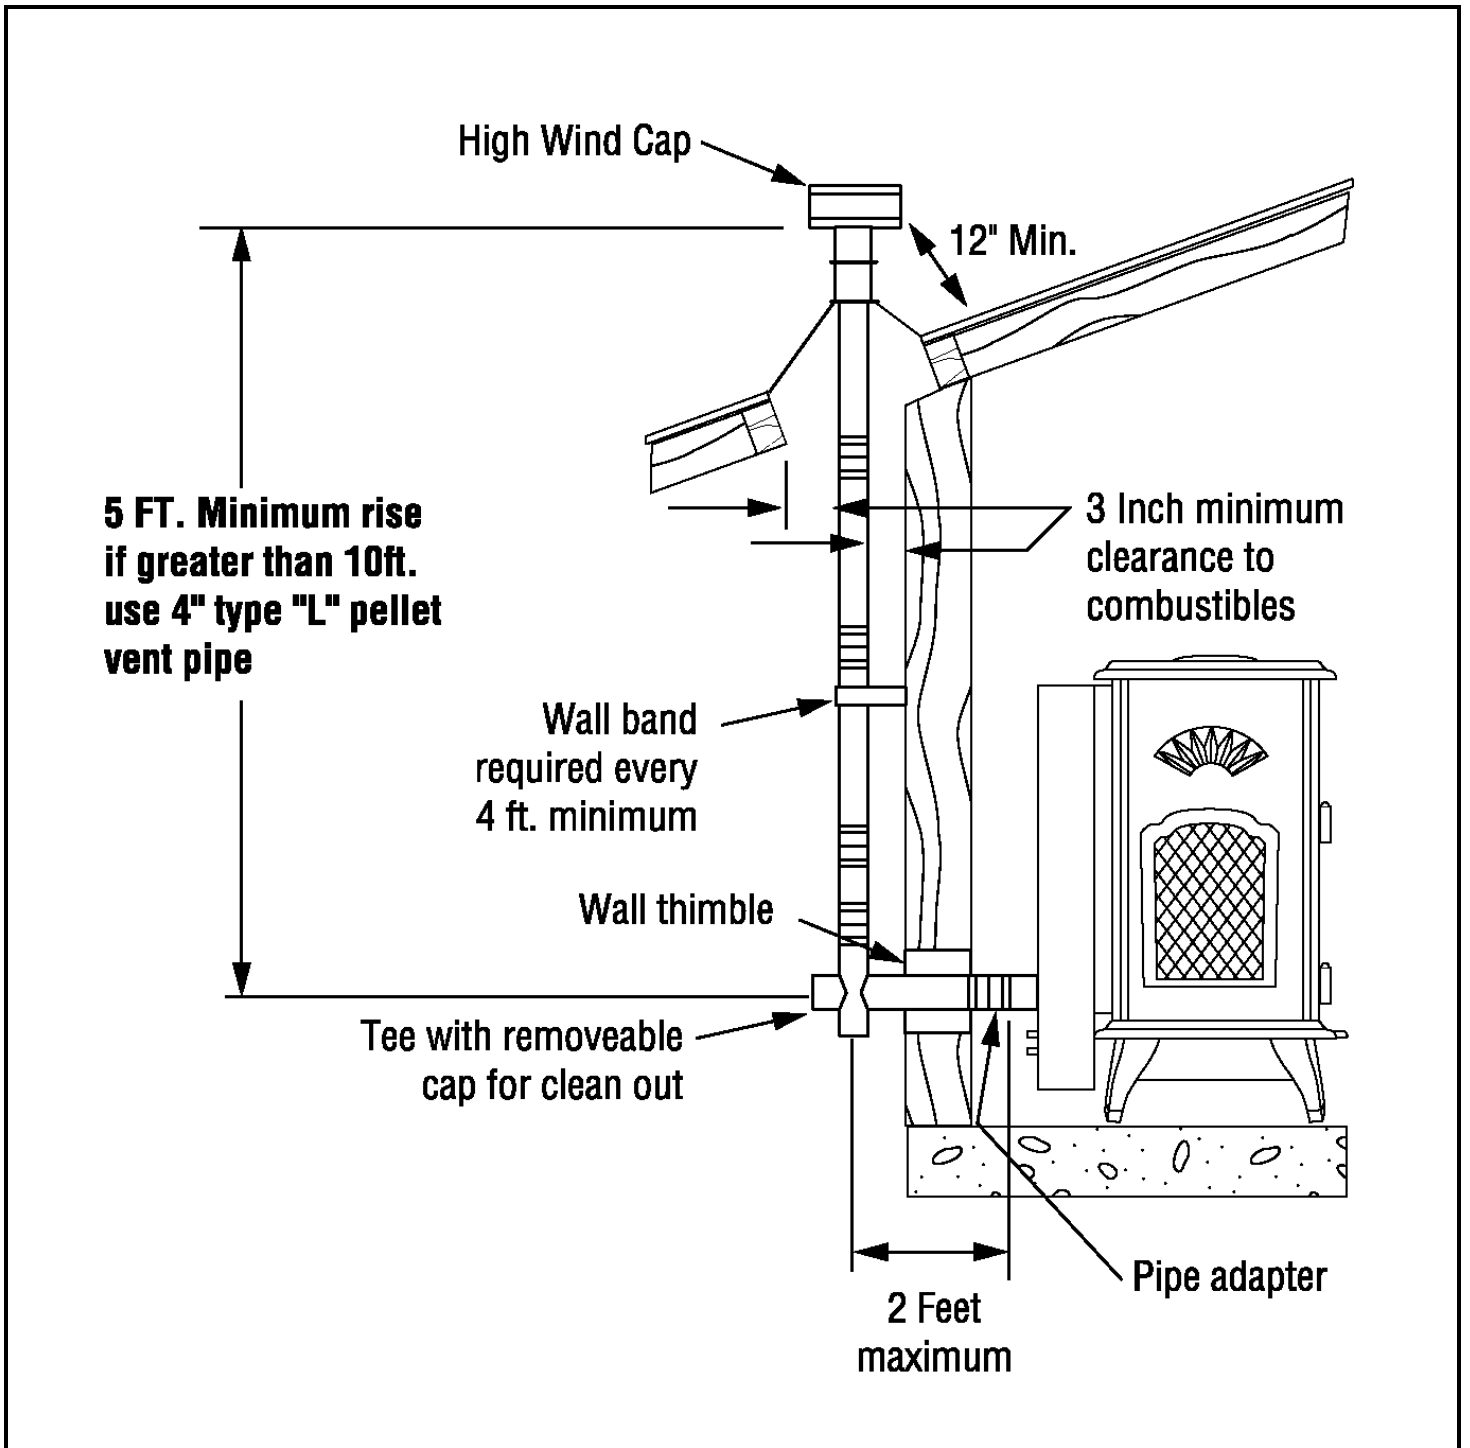

FIGURE 4
- a. When exiting through the wall with Type "L" pellet vent pipe, exit straight out through a wall thimble. Connect a pellet vent tee and extend the vent pipe at least 5 feet vertically outside to provide good draft and allow the gases to exit. The tee must have a clean out cap for inspection and regular cleaning (see FIGURE 4). Whenever the pipe run in any installation is 10 feet or more, the use of 4-inch Type "L" vent pipe is required.